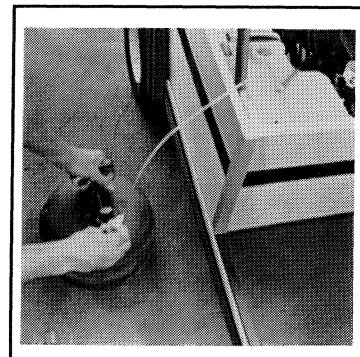

Figure 11
2. Using a siphon with a suction device (See Figure 11), drain all of the gasoline out of the tank into an approved gasoline container.